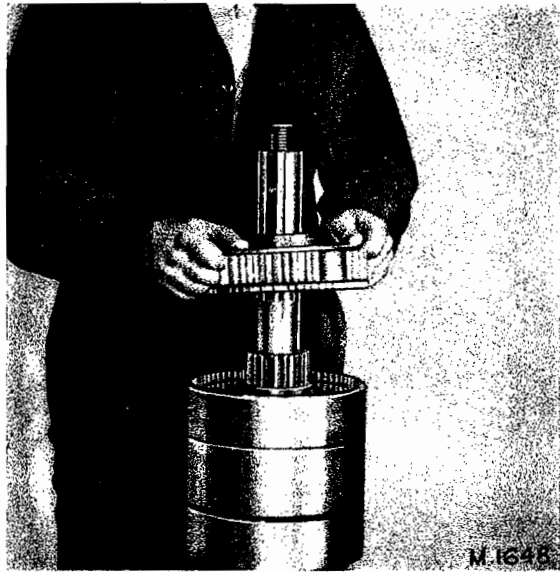

FIG. 23 FITTING THE SUB-ASSEMBLY OF THE 1st SPEED PLANETS
13. Smear bottom face of 2nd speed gear assembly with grease to hold adjusting washer (59). Locate washer and fit sub-assembly of 2nd speed gear train which comprises output shaft (44) and 2nd speed planets.
14. Fit the bush (57).
15. Fit the sub-assembly of the 1st speed gear train (29), which comprises the 1st speed planets, Fig. 23.